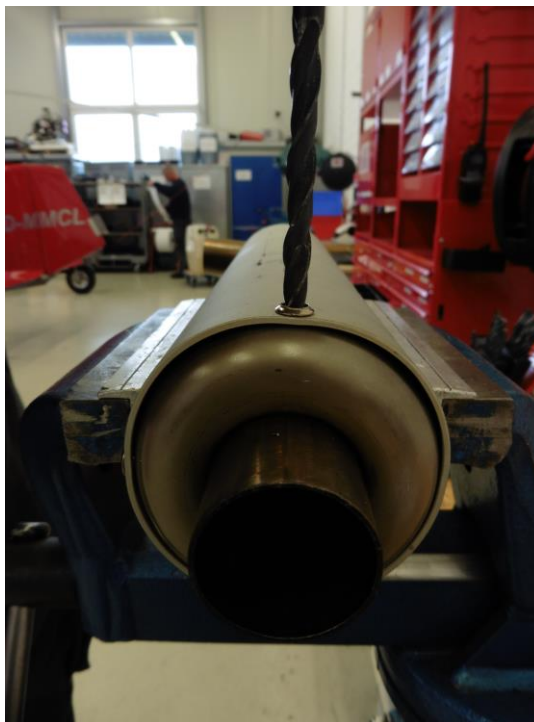

Fig.3: Drill out the rivet pin
- 7 Drill out the rivet pin (Fig.3). Then, use appropriate tool to tap out the pin of the rivet.